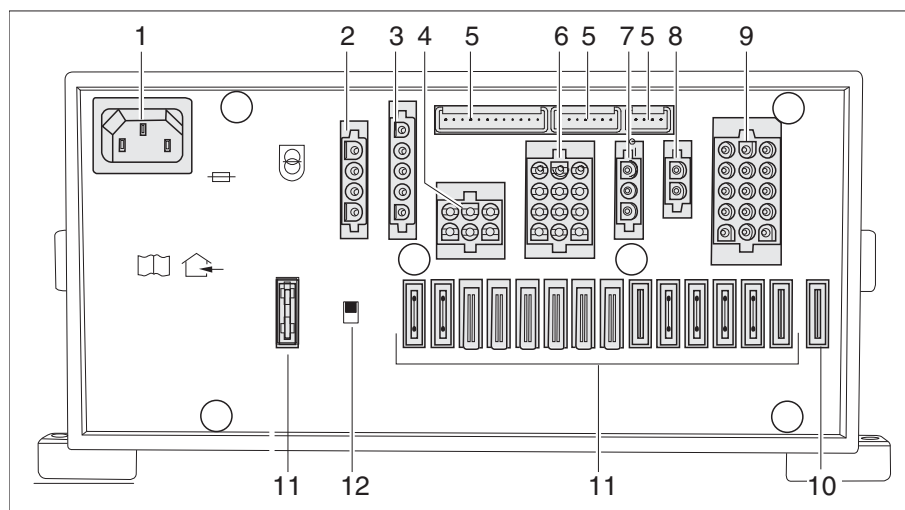

Fig. 220 Transformer/rectifier (EBL 111)
- ▷ The battery cut-off switch (Fig. 220,12) disconnects all the appliances that are connected to the transformer/rectifier from the 12 V network.